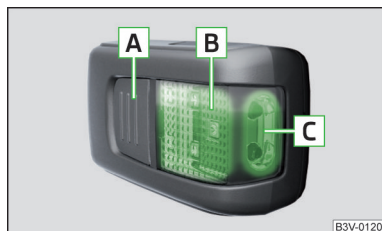

Fig. 116
Description of the light » Fig. 116
- » To **switch on** the removed light, press button » Fig. 116. Pressing the light again will **switch it off**.
If the light is not switched off and is correctly inserted in the mount, the LED diodes in the front part of the light » Fig. 116 are automatically switched off.